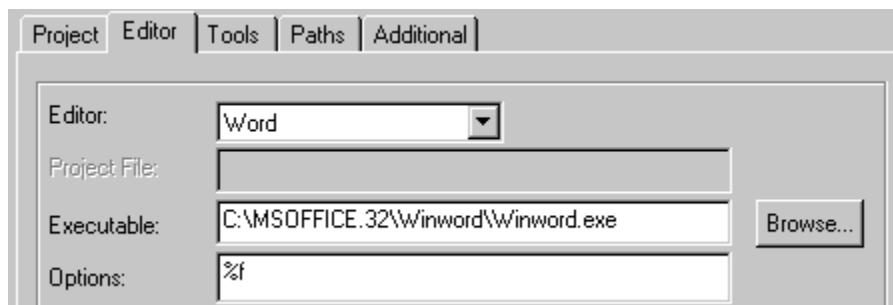

Figure 4-8. Editor Configuration for Word
6. The **Options** edit box contains options used for error feedback in the MCUEz assembler and linker. After selecting **Word**, the shell automatically enters the appropriate options. **Figure 4-8** shows a typical Word configuration.